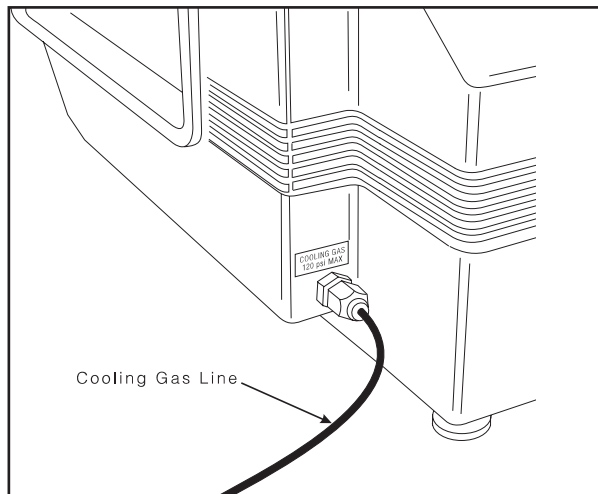

Figure 2.7
1. Locate the COOLING GAS fitting, a 6.2 mm (1/4-inch) compression fitting on the left side of the DEA cabinet back, marked with a 120 psi maximum warning label (see Figure 2.7).